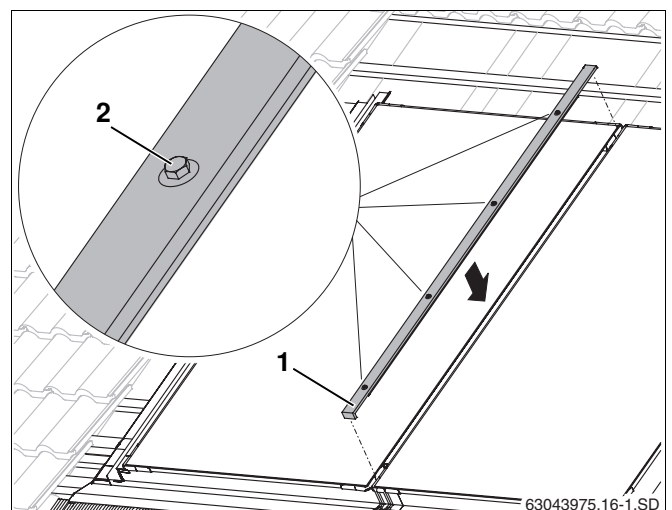

Fig. 51 Middle cover strip
- Press cover strip (Fig. 51, **Item 1**) with the folded edge facing downwards into the gap between the two collectors and make sure it is centrally positioned.
- Using size 8 spanner, tighten screws (Fig. 51, **Item 2**) by hand, beginning at the bottom.